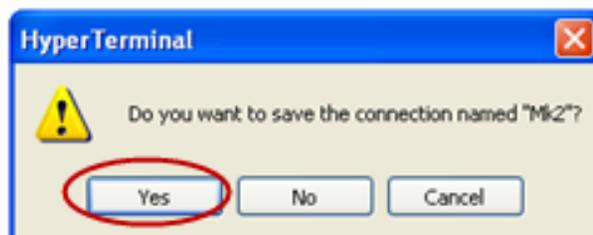

Fig.16
9. Save your connection (Fig.16):